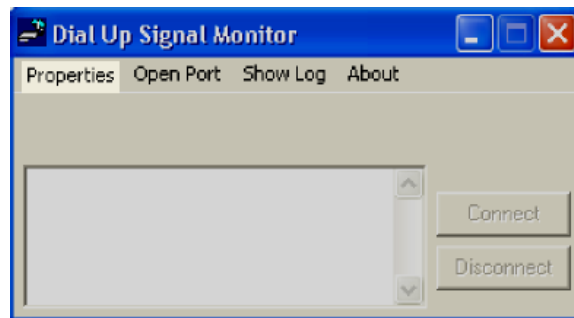

Figure 15. Dial Up Signal Monitor – Properties
- (1) Setting the COM Port.
- (a) Select Properties from the Options menu (see Figure 15).